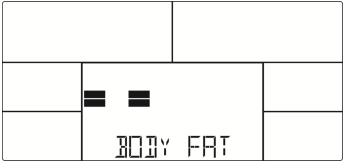

FIG 24
4. During the test, the user must hold the handle with both hands.And the LCD will display " = " " = " (Figure 24) for 8 seconds until the test is complete.